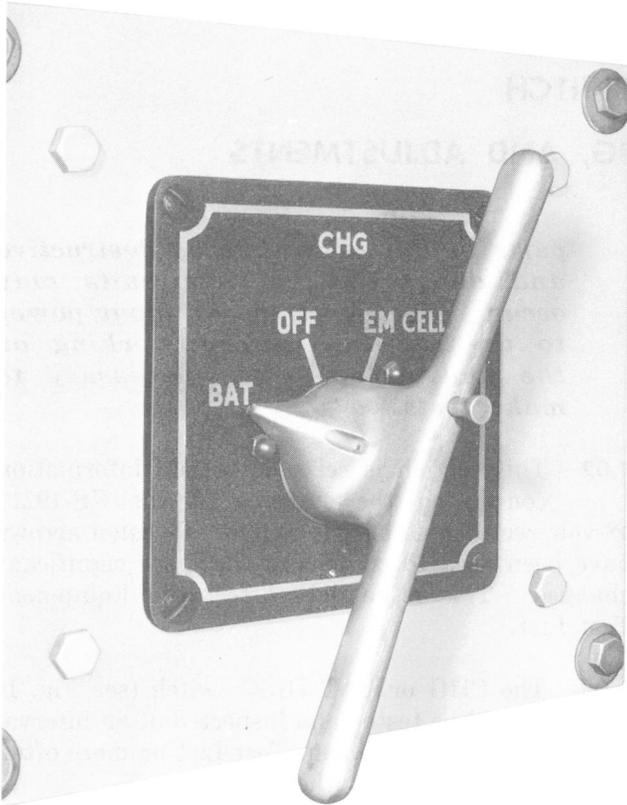

Fig. 1—DC Output Switch (Q Option)
1.03 The CHG or BAT DISC switch (see Fig. 1) should be tested and inspected at an interval specified in the Equipment Test List or more often if experience indicates the need.